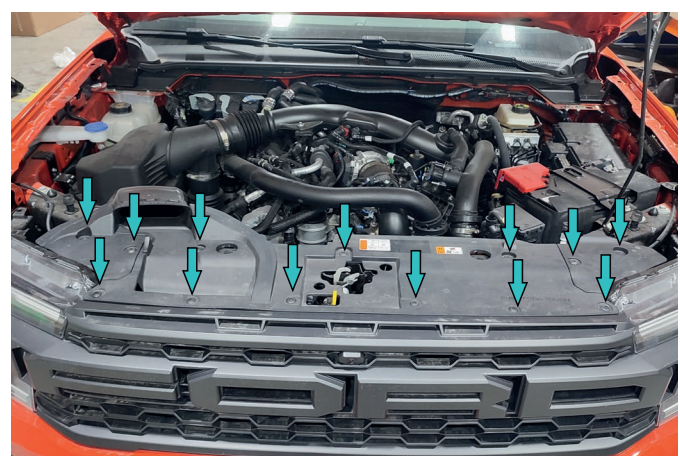

Fig.84
79. Install the factory plastic pad and fix it using factory clips (fig.84).